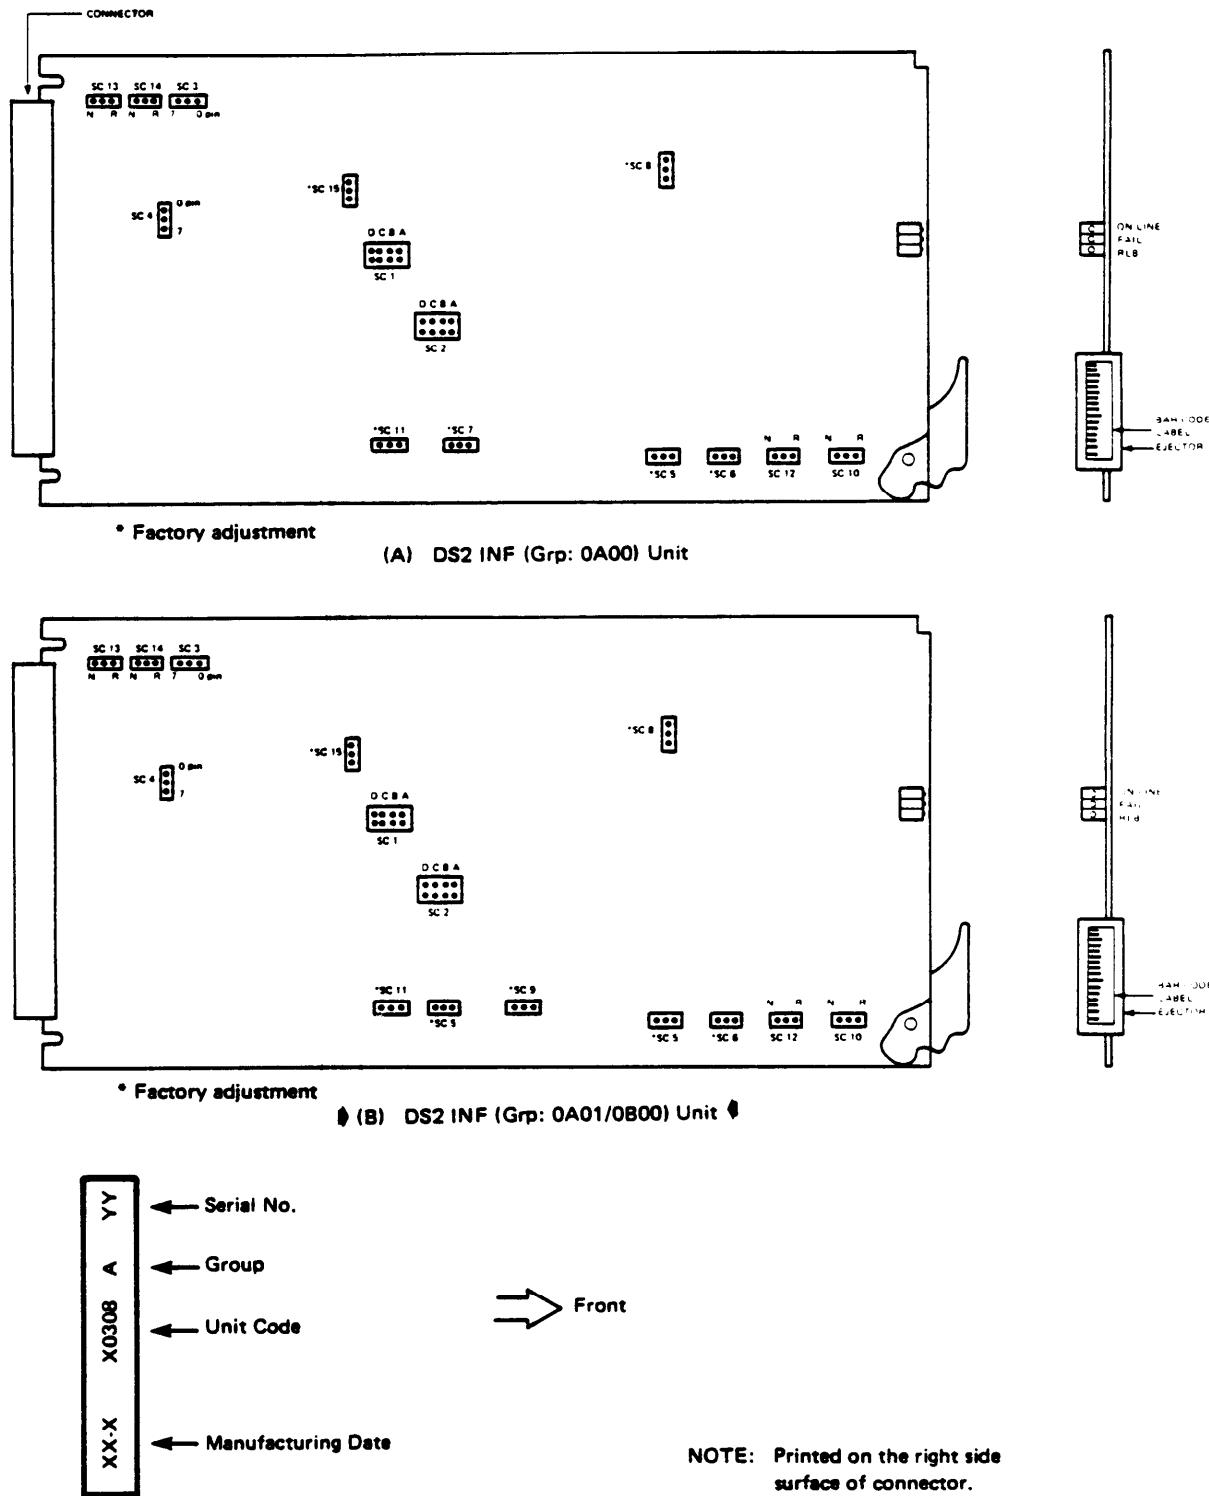

Figure 4-1 DS2 INF Unit Indicators
2.05 The lower front edge of the PWB is fitted with ejector to facilitate insertion and removal of the board from the shelf. A CLEI and bar code label is placed on the surface of the ejector. See Figure 4-1.
4.01 Table 4-1 and Figure 4-1 show indicators on the DS2 INF unit. Physical location of indicators are shown in Figure 4-1.
5.01 There are 14 strapping locations on this unit (Grp: OA00, OA01 and OB00) as shown in Figure 4-1. Detailed strapping selections are described in NEC practice NECA 365-407-203.